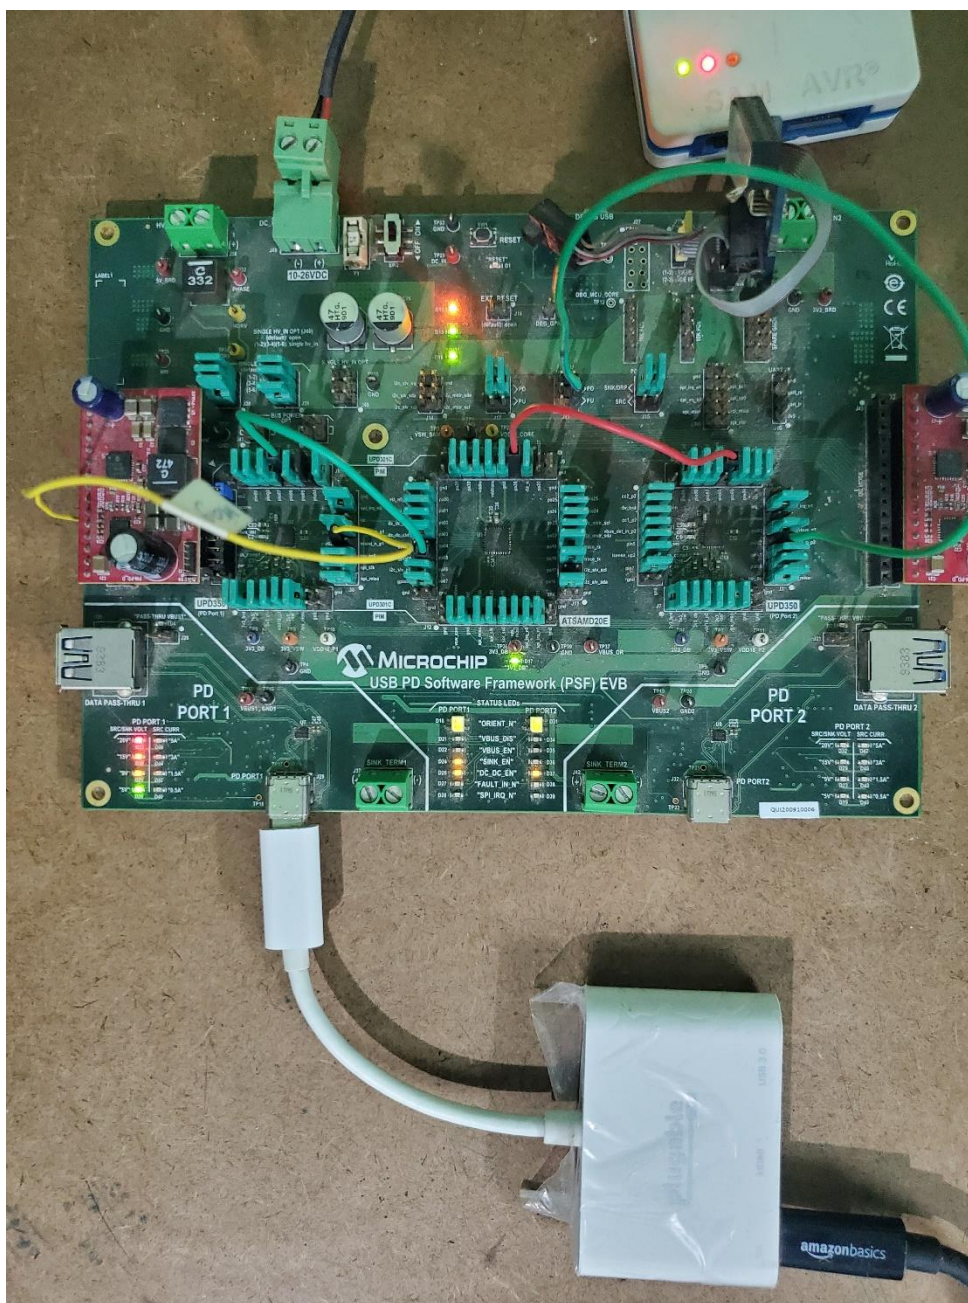

Figure 6.1 PSF and Dock before an FRS
3. After these steps have been completed, the PSF-EVB and the dock should be setup in the same method as shown in Figure 6.1 PSF acts as power sink and dock acts as power source before an FRS.
- Once an explicit power contract is negotiated, the dock starts charging. PDO status LEDs will turn on indicating the negotiated voltage as shown in Figure 6.1
- Once an explicit power contract negotiation is in place, the PSF gets enough power for charging. PDO status LEDs will turn ON indicating the negotiated voltage as shown in Figure 6.1